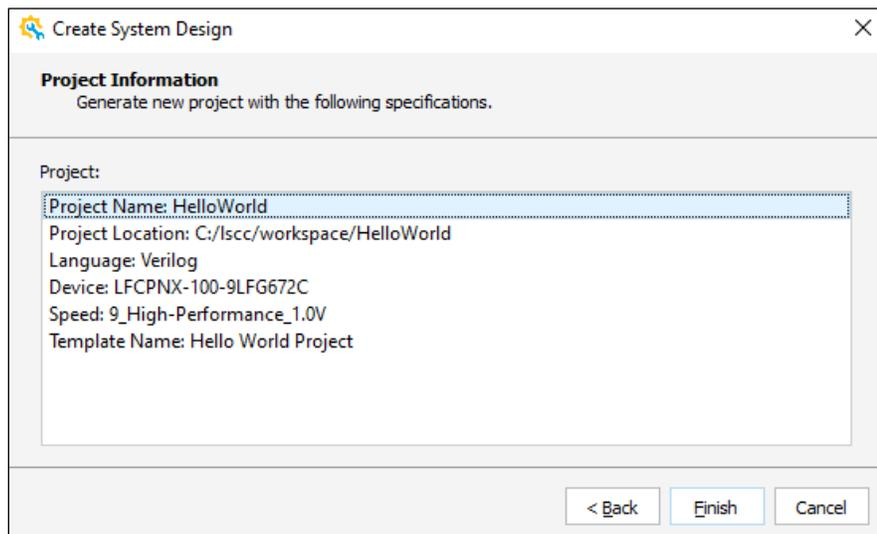

Figure 2.14. Project Information Wizard
9. Click **Next**. The Project Information wizard opens (Figure 2.14).